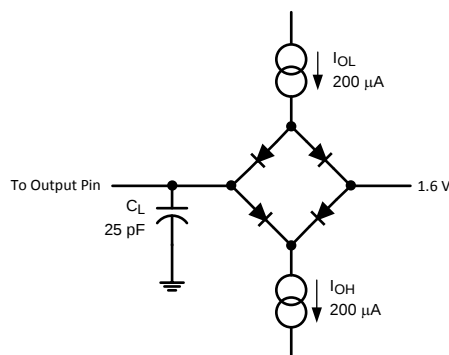

Figure 1. Timing Test Circuit
- (1) Measured with the timing test circuit shown in Figure 1 and defined as the time taken by the output signal to cross 1.0V .
(2) Measured with the timing test circuit shown in Figure 1 and defined as the time taken by the output signal to cross 1.0V or 2.0V .
(3) t_{DIS} is derived from the time taken by the outputs to change by 0.5V with the timing test circuit shown in Figure 1. The measured number is then adjusted to remove the effects of charging or discharging the output capacitance. This means that t_{DIS} is the true bus relinquish time, independent of the bus loading.